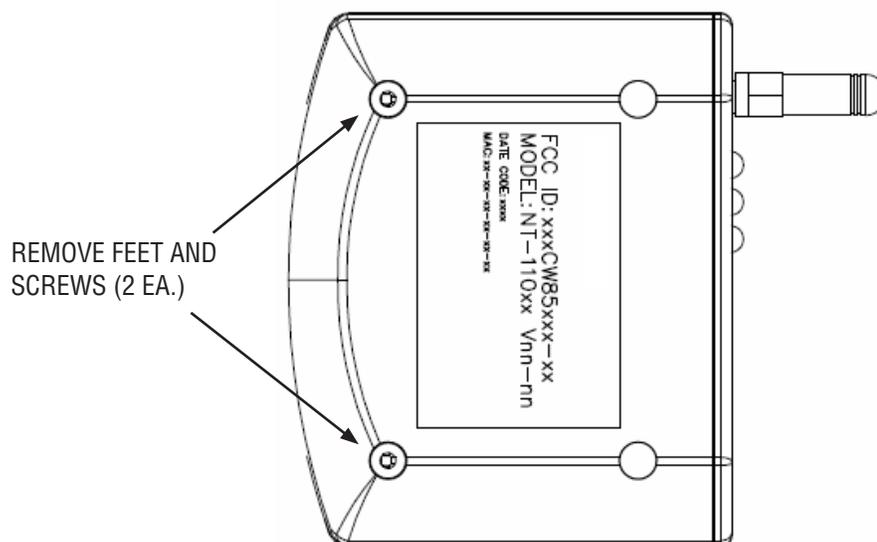

Figure 1
**Remove the case feet (attached by adhesive) and the two Phillips head screws that cover from the bottom of the case. [Figure 1.]**